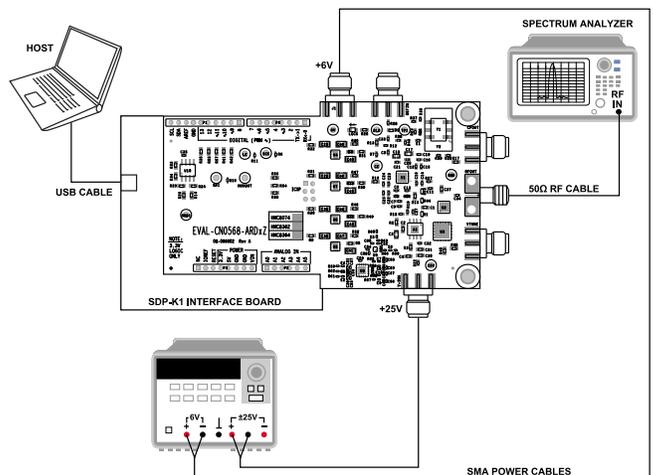

Figure 10. Test Setup
1. Ensure that power supplies are turned off. Set up the evaluation board as shown in Figure 10.